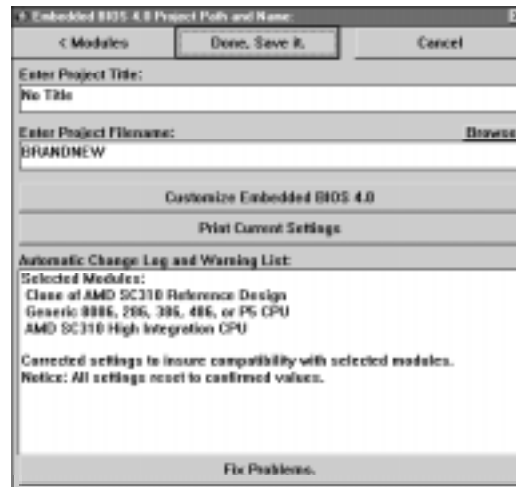

Figure 6.4. Main project control screen.
4. Specify a title and filename for the BIOS adaptation. The title of the BIOS will appear at the top of the screen when the completed BIOS boots on your target hardware. The file name is used to determine the name of the project directory where the .INC file and the final .ABS file will go as well as the name of those files. To preserve compatibility with DOS and with GSMMAKE, BIOSstart limits the project file name to 8 characters. The default settings as well as the screen that you set them on is displayed in Figure 6.4.
Clicking on the **[Previous Menu]** button will take you back to the last menu. If you move all of the top menus aside, until you see the bottom menu, you could click on **[Previous Menu]** and BIOSStart would take you back to a screen similar to the one in Figure 6.4.